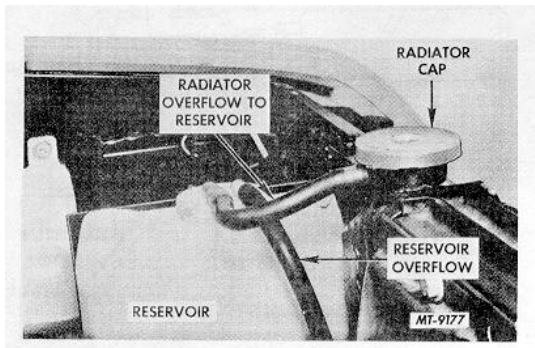

Fig. 2. Coolant System Reservoir Installation
6. Reservoir System - (if so equipped). The reservoir installation consists of a simple, plastic reservoir mounted near the radiator cap, coolant lines and a special radiator cap (Fig. 2). Once the radiator cap is installed, it should not be removed except when the cooling system is cold and for refilling after the entire system is drained. With this system, coolant make-up originates from the reservoir. Coolant overflowing from the radiator enters the reservoir to be conserved until drawn back into the cooling system (engine and radiator) when it cools down. The reservoir installation provides a means of removing air from the cooling system and keeping the coolant level at a maximum fill condition.